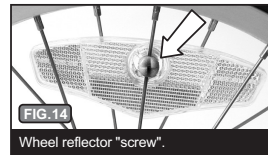

FIG. 14
**A)** Reflectors should be mounted 90 degrees from the valve stem, Fig. 13. The reflectors should be installed by weaving them through the spokes. The reflectors attach to the spoke with the white slotted attachment "screw", Fig. 14. Remove attaching screw from reflector. Place reflector in position between wheel spokes and centered on a spoke approximately 90 degrees from valve stem.
**B)** Install screw, Fig. 14, over spoke and into receiving hole of reflector. Using a screwdriver, turn screw 90 degrees clockwise to lock reflector in position. Repeat the above steps for the second reflector to be installed opposite the position of the first reflector. This reflector configuration will keep the trailer wheel balanced and vibration free.